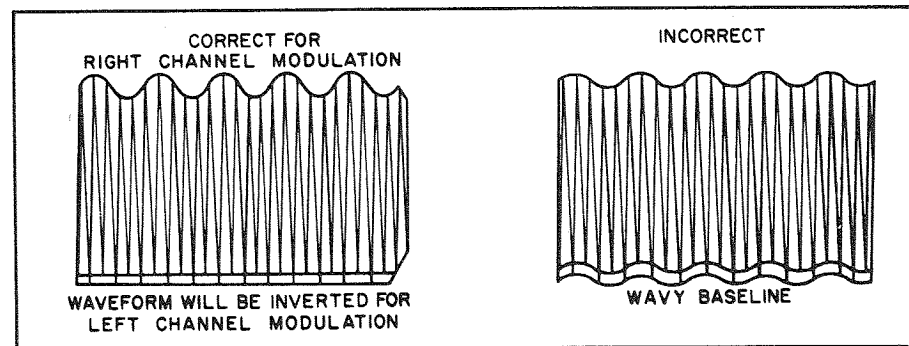

Figure 7. Waveform At Test Point 402.
- (6) Turn R107 SEPARATION CONTROL (on PREAMPLIFIER board) CW to maximum resistance setting. Adjust core of Z403 (on FM IF, MPX, METER board) for maximum gain and as straight a base-line as possible on scope (see Figure 7). AC VTVM should read minimum.
- (7) With MPX generator modulated on right channel only, connect AC VTVM to Right OUT TO EXT RCDR jack. Record reading on AC VTVM.
- (8) Set MPX generator to modulate left channel only. Adjust R107 SEPARATION CONTROL (on PREAMPLIFIER board)
- for minimum reading on AC VTVM; at least 30 dB below reading recorded in step (7). Record reading.
- (9) Connect AC VTVM to Left OUT TO EXT RCDR jack. Same reading ± 2 dB as recorded in step (7).
- (10) Set MPX generator to modulate right channel only. Same reading ± 3 dB as recorded in step (8).